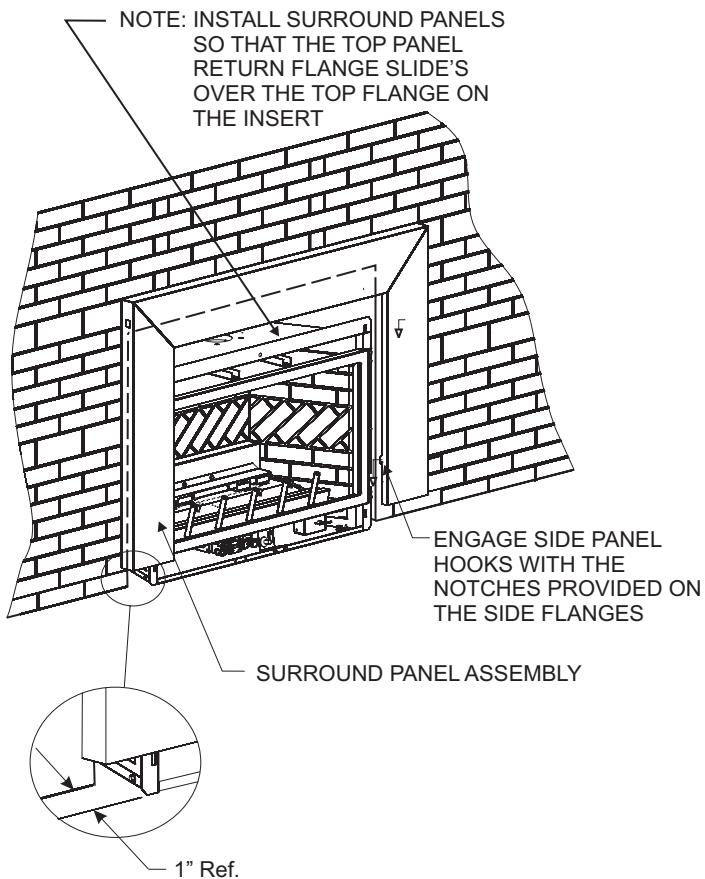

Figure 22
- Attach the flag terminal ends to the "TH/TP" and "TH" terminals on the front terminal block of the gas valve. **See Figure 22.**